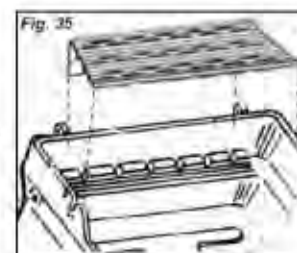

Fig. 35
3. The SearMagic Warming Rack drops onto the top edge of the grill head bottom. The warming rack bracket is positioned between the hinges of the grill head bottom inside back wall. (Fig. 35)